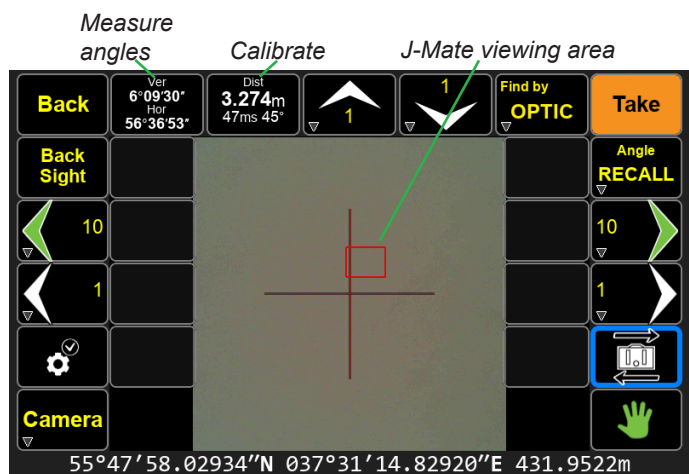

Figure 11
5. The viewing angle of the TRIUMPH-LS camera is 60-degree wide, while that of the J-Mate is about 5 degrees. The viewing area of the J-Mate camera is represented on the TRIUMPH-LS by a small red rectangle (Figure 11). While TRIUMPH-LS is sitting on top of the J-Mate, you can view your target on the TRIUMPH-LS camera , bring it to the rectangle by touching the target or using the navigation buttons, and then switch to the J-Mate camera.